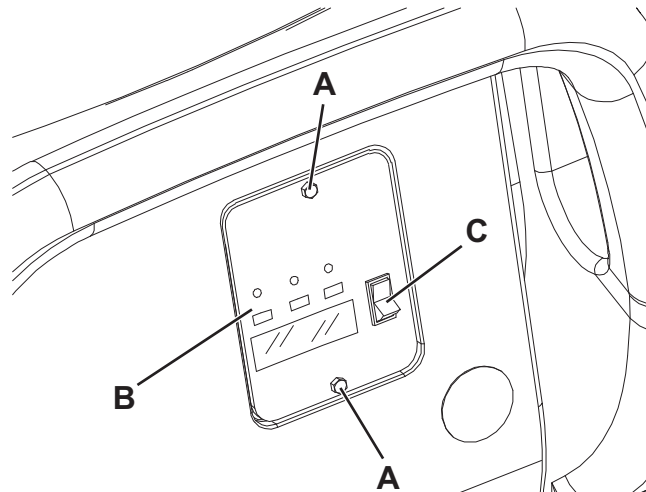

Figure 1
7. Remove the battery charger data inspection window screws (A, Fig. 1).
8. Remove the window (B).
9. Turn the battery charger selector (C) to WET position for lead batteries, or to GEL/AGM position for gel batteries.
10. Install the window (B) and tighten the screws (A).